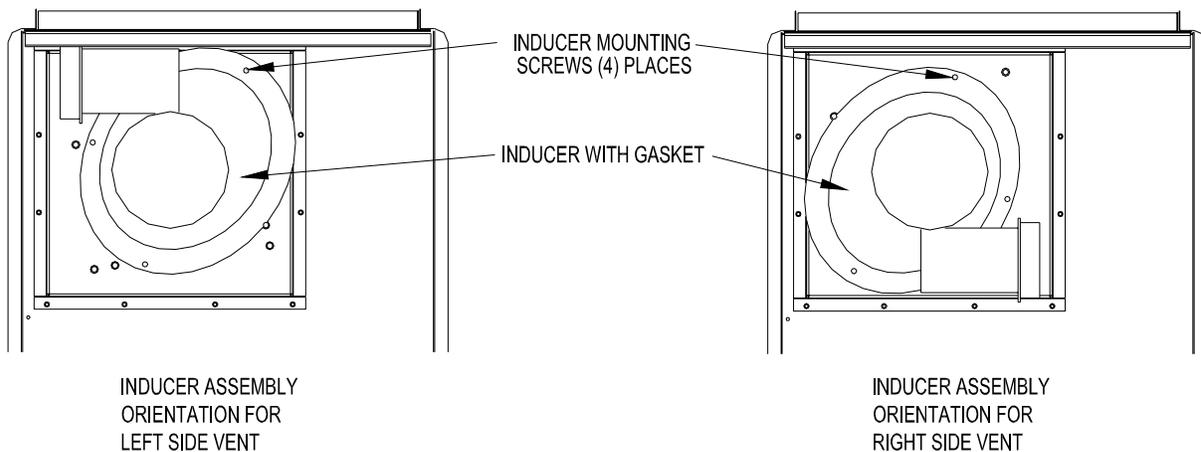

Figure 5: Inducer Mounting
The flue may exit the unit through the top, left side, or right side of the unit, refer to Figure 5. The inducer can be rotated by removing the four (4) inducer mounting screws and rotating the inducer housing. Ensure that inducer gasket is in place before reinstalling inducer.